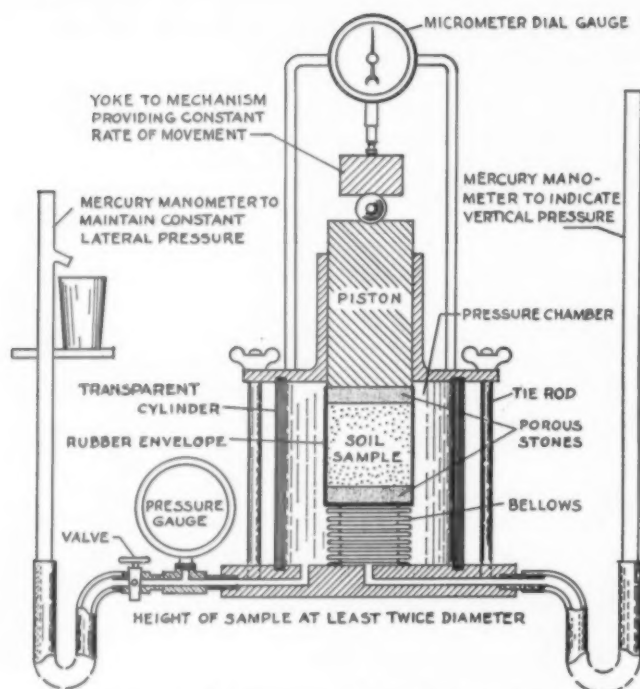

Fig. 5.—Schematic Diagram of Confined and Constrained Compression Test.
The desired supplementary data are obtained by testing cylinders of the soil at predetermined amounts of lateral restraint, and this may be done in apparatus which has the essential features shown by Fig. 5,
The cylinder encased in a thin rubber membrane between two porous stones, Fig. 5, is placed in a chamber filled with liquid connected to a manometer which can be adjusted to provide any desired lateral pressure. The developed vertical pressures are read from a second
By means of the apparatus shown in Fig. 5, an almost completely constrained compression test may be performed also. In this case the pressure gage, instead of the adjustable manometer would be used to determine the pressures in the chamber. If it were possible to completely prevent horizontal deformation of the sample, and if the voids were completely filled with water, there could be, excluding the deformation of the water itself, no vertical deformation of the sample either. In such case the relation  $l/v$  which has commonly been designated by the letter  $K$  depends on the elasticity of the soil and is not related to shear strength of the sample and therefore materials differing widely in strength may have  $K$ 's of the same value. Professor D. P. Krynie (6) and F. L. Plummer (7) and others (8) have called attention to this pertinent fact. Professor Krynie states: "The value of  $K$  in monotonously isotropic elastic bodies (confined water, some metals, etc.) is equal to one." Mr. Plummer states that "soil pressure at rest" depends not on cohesion and internal friction but solely on the elastic properties of the backfill."
An enormous stabilometer designed for several hundreds of tons per square foot vertical pressure, is the key test of research on bituminous road mixtures at the great laboratories of the Shell Oil Company, Amsterdam (16). The essential features of the one shown in Fig. 5 are based on extensive experience in the determination of  $c$  and  $\phi$  by this means in the Delft laboratories (17).
Provision for both increment and constant rate of deformation types of loading seems desirable. For controlling the lateral pressure the manometer shown in Fig. 5, the weighted hydraulic piston or a compressed air reservoir may be used.